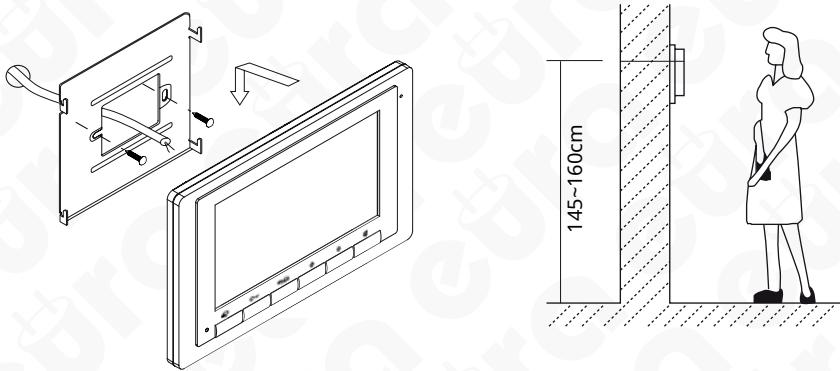

Fig. 4. Installing the VDA-49A5 monitor on the wall
The VDA-49A5 monitor is designed for installation inside the user's premises. The monitor should be installed on the wall (see Fig. 4) as follows: 1. In the selected place on the wall, mount the special mounting frame included in the set. The frame should be mounted using 2 mounting screws 4 x 25 mm.
3. Carefully hang the monitor onto the 4 hooks of the mounting frame, following the direction of the arrow in Fig. 4.